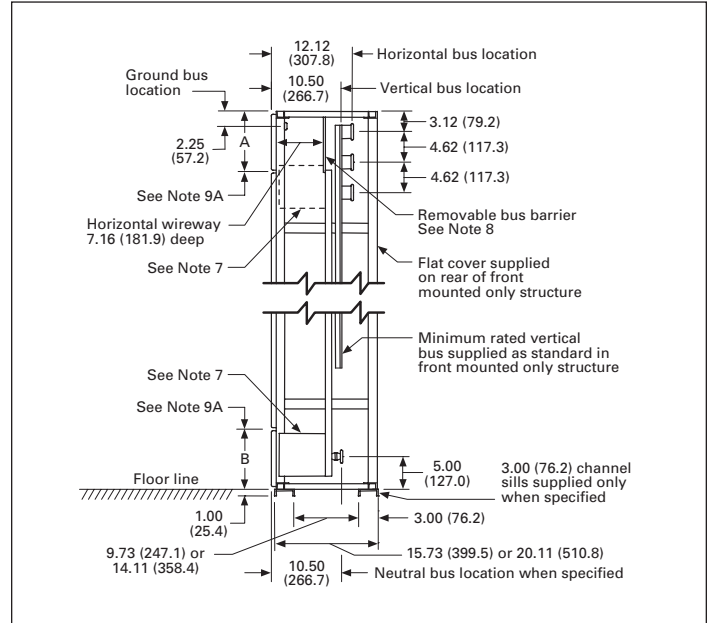

Figure 47. Side View A
5. This conduit space is not recommended when a neutral bus and/or a space heater is required. Otherwise this space is available for conduit. See **Figure 47** for vertical dimensions.